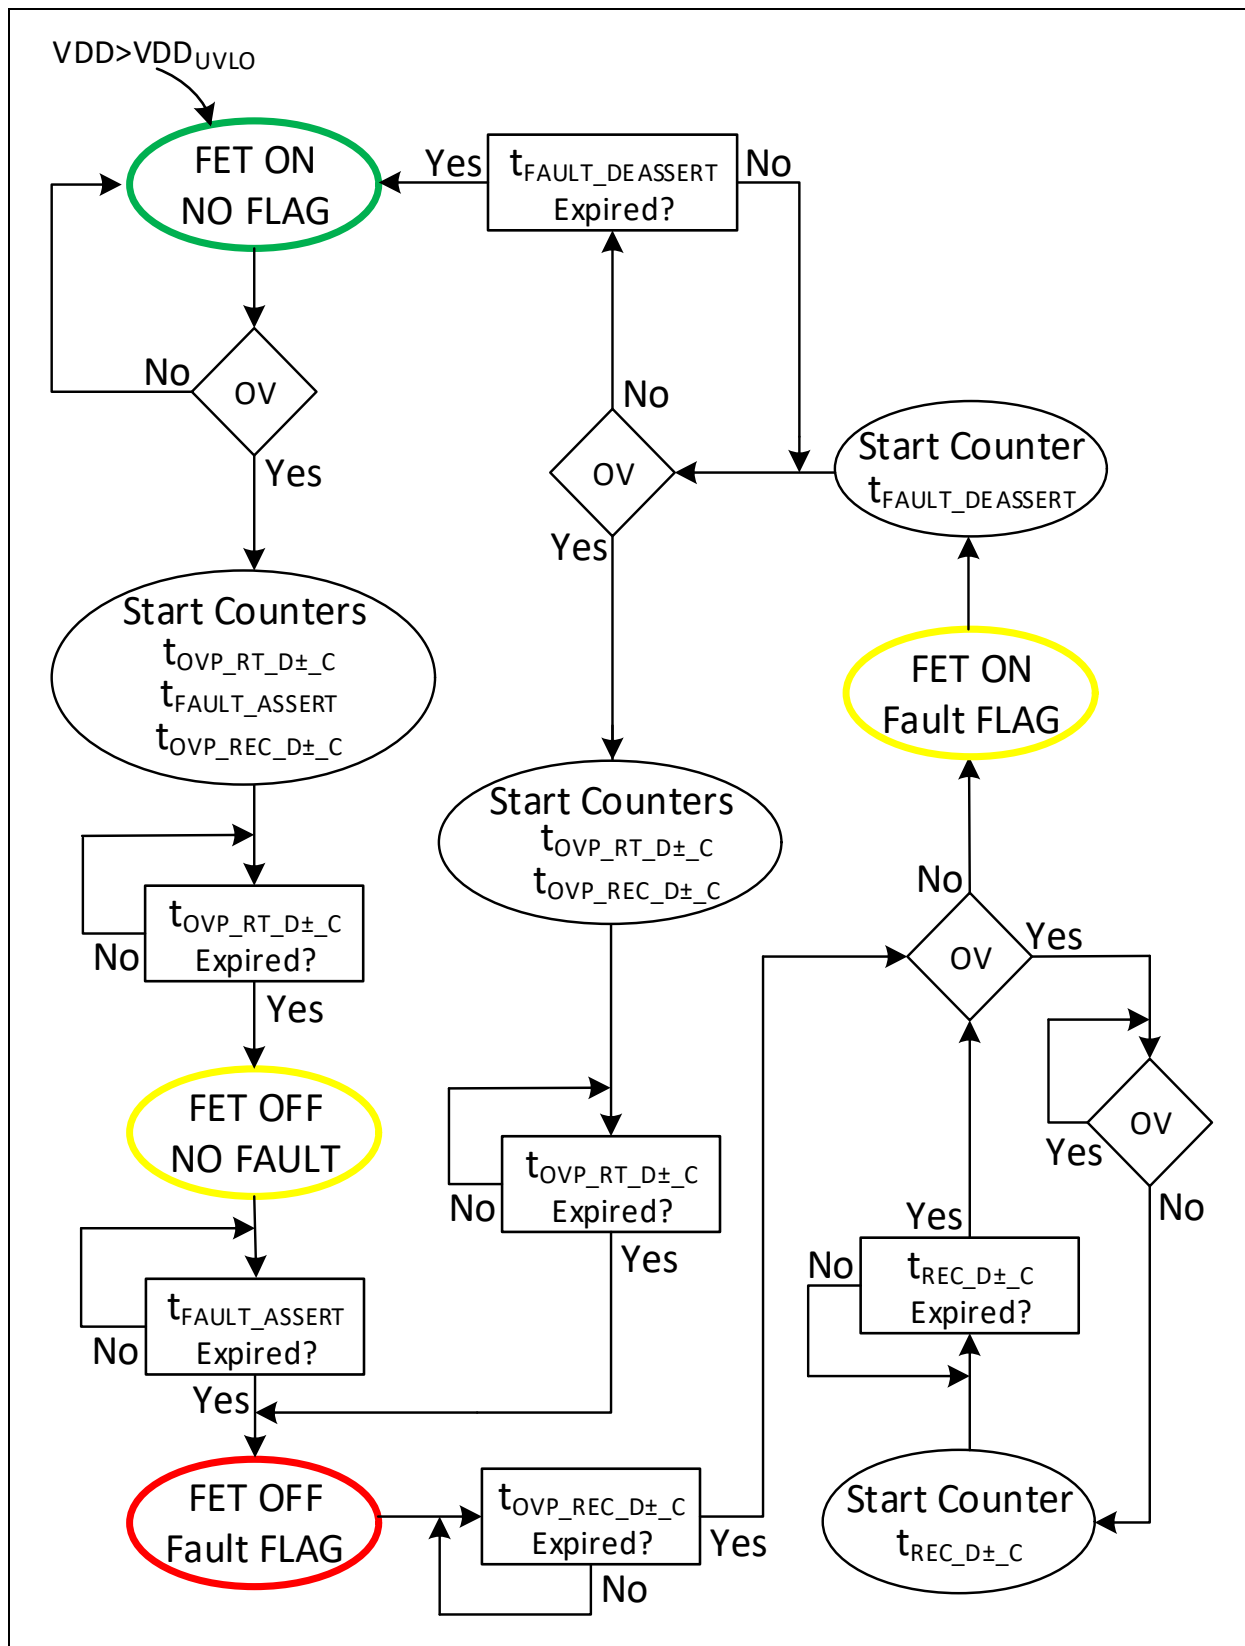

FIGURE 1-7: D+, D- Fault Flow Chart.
- Overvoltage (see Figure 1-7 for D+, D- example)